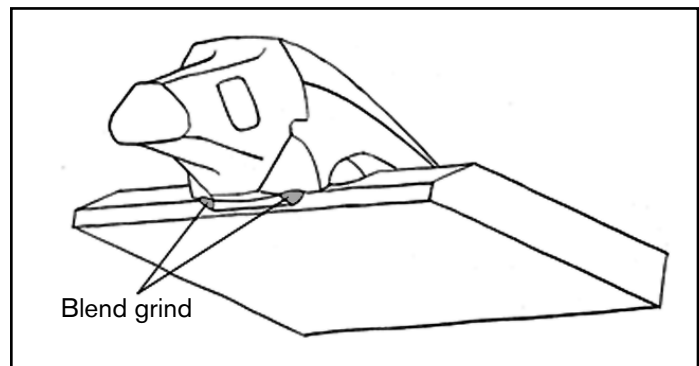

Figure 2
4. For one-leg Flushmount Adapters, a fillet weld of equal size to the leading edge thickness of the lip should be applied. Grind the ends smooth at weld junctions. If a lightener cavity extends forward of the lip leading edge, cover the opening with weld. Maintain a full fillet width on the entire weld shown in Figure 2.